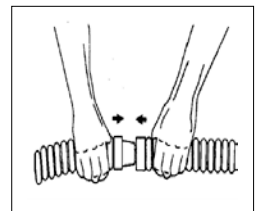

Figure 4
There are eleven (11) 81 cm connector hoses and one (1) 81 cm leader hose with a gray cuff. Connect the special cleaner hose sections together by pushing and twisting the tapered male connector end of each hose firmly into the female end of the adjacent hose sections (See Fig. 4). Depending on the size and shape of your pool, all hose sections might not be used. However, **the leader hose MUST ALWAYS be used or your cleaner will not operate properly.** It is not necessary to "Bottom Out" the connections, but they **MUST** be tight enough to prevent any air leaks. Wetting the hose ends will make it easier to connect the hose sections.